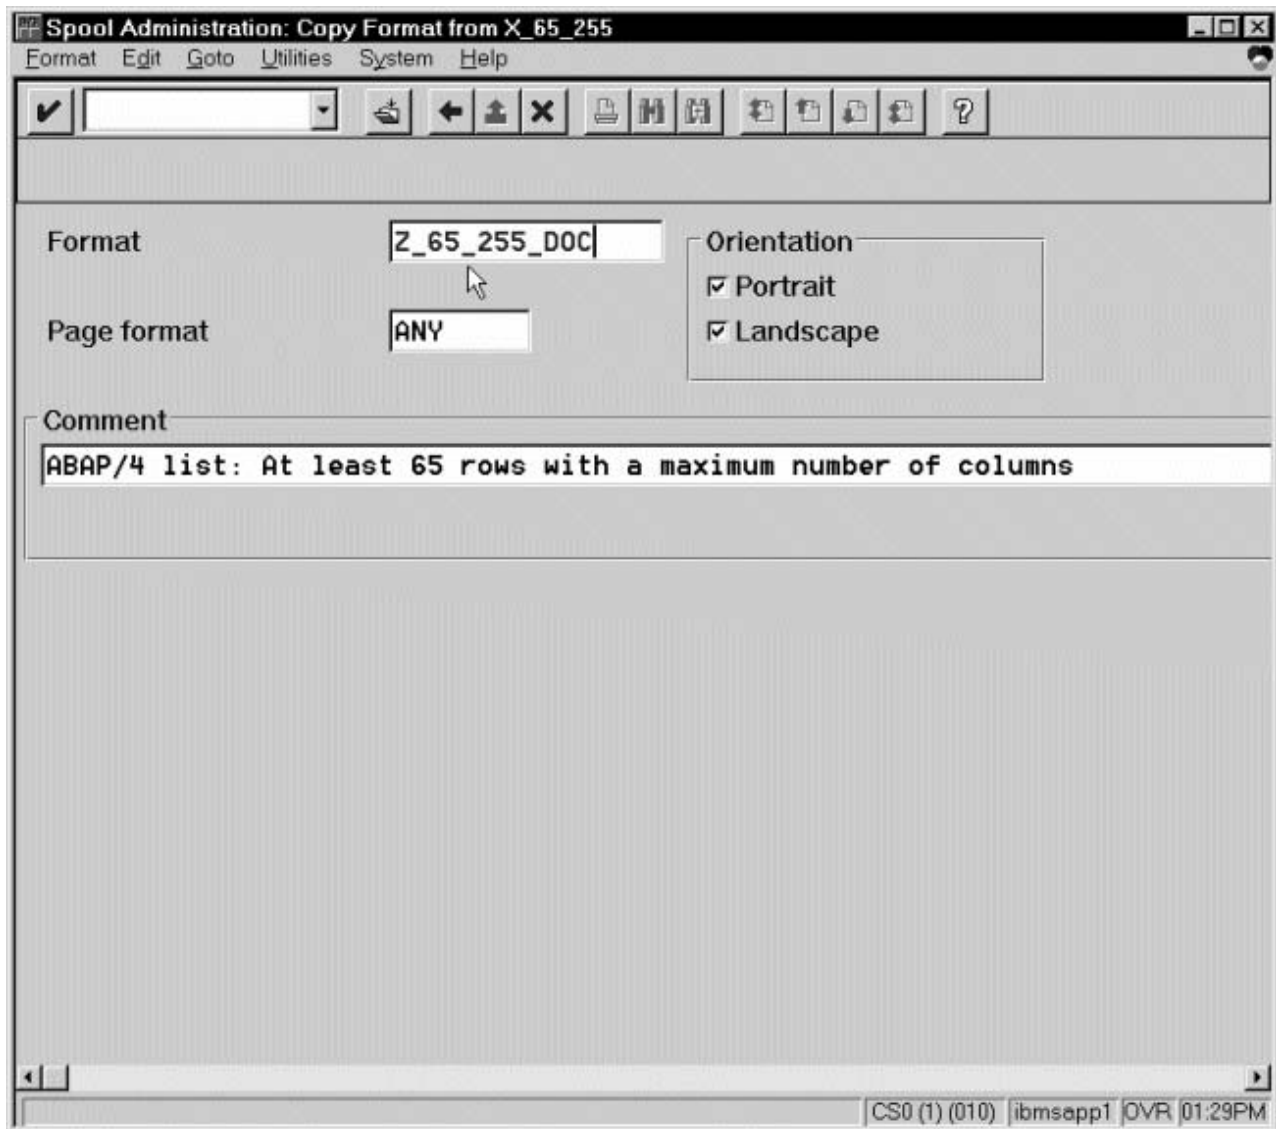

Figure 56. Spool Administration: Copy Format from X_65_255 window
4. From the Spool Administration: Copy Format from `X_65_255` window, specify the name of your customized Format with the naming convention of `Z_number-of-rows_number-of-columns_more-identifying-text` as shown in Figure 56 on page 135: